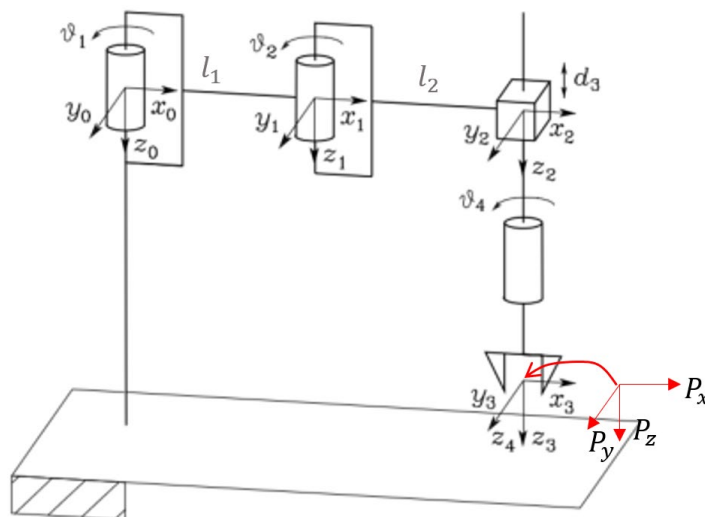

Fig. 1. SCARA manipulator
1. Analyse the kinematics and dynamics of the SCARA robot shown in Fig. 1.
- a. (2%) Find out its *classic/standard* Denavit-Hartenberg parameters table. To simplify the problem, in Fig. 1, all coordinates are already provided.
Fig. 1. The illustration of a classic rotary soft origami joint. (a) Joint neutral state. (b) Joint fully folding state. (c) Joint fully deployed state. (d) Geometrical parameters of one unit joint in neutral state. (e) Origami formation from the flat sheet.
Given a classic rotary soft origami joint as shown in Fig. 1, the rotary soft origami joint could achieve controllable bilateral rotation under dedicated pneumatic actuation. Please derive the model to illustrate the working principle of the soft origami rotary joint.
- (1) The central angle of the origami chamber in the initial neutral state is θ_0 , in a fully folded state under negative pneumatic actuation (vacuum) state is θ_{min} , in the maximum expanded state under positive pneumatic actuation is θ_{max} . r_1 and r_2 are the constants of the radius of the origami chamber as shown in Fig. 1. Please derive the calculation of $(\theta_{min}, \theta_{max}, r_1, r_2)$ based on the geometrical design parameters (a, b, c, d, h, t, n) shown in Fig. 1.
- (2) Using a cylindrical shape to simplify the inflated origami chamber, as shown in Fig 1(f), the T_1 and T_2 are the individual torque generated by chamber 1 and chamber 2 respectively. k is the inherent stiffness constant of the origami material. P_0 is the standard ambient air pressure. P_1 and P_2 are the actuation pressure for chamber1 and chamber2. h, r_1, r_2 are constants from the parameter design. Please derive the overall generated torque T of the origami joint.
- (3) Please derive the joint stiffness K with the variables of $\partial P_1 / \partial \alpha$ and $\partial P_2 / \partial \alpha$.
- (4) Assume the rotary origami joint is working in an adiabatic process, where $\frac{\partial P}{\partial v} = -\gamma \frac{P}{v}$ is provided, and γ is the specific heat ratio. Please further derive the expression of joint stiffness K based on the expansion of $\partial P_1 / \partial \alpha$ and $\partial P_2 / \partial \alpha$.
- (5) Given M is the inertia matrix, Γ is the external load, F_f is the modeled friction, and $G = mgh \cos \alpha$ is the potential energy of mass m at a height of $h \cos \alpha$ in a gravitational field with constant g . Besides, the \dot{m} is the mass flow rate, and \dot{m}_{in} and \dot{m}_{out} are the mass flow-in and mass flow-out rates through valves. The mass flow rate calculation is given as: